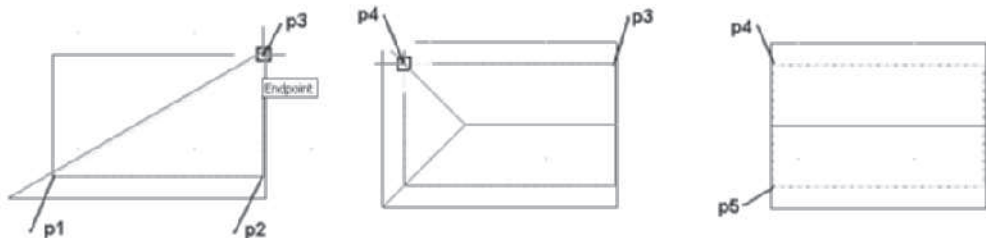

FIGURE 7.9 Selection of points to create a gable roof
overhang on that edge can be changed in the Properties palette. The steps for creating a gable roof are described below and in Figure 7.9.
2. Edit the Properties palette: set Shape = **Single slope**, Overhang = **16"** [400], and select point **p1** as shown at the left in Figure 7.9.